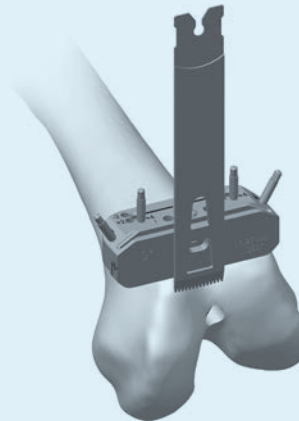
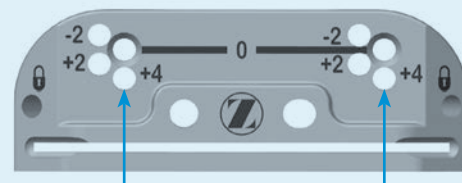

Fig. 15a
Fig. 15b
- If desired, the bone resection can be made from the top (most distal) surface of the Cut Guide (Fig. 15a). The top surface of the Cut Guide is 4mm from the cut slot. Therefore, if cutting from the top surface, the position of the Cut Guide must be adjusted by moving the Cut Guide from the Trocar Tipped Pins through the '0' holes and reinserting the Cut Guide onto the Trocar Tipped Pins through the holes marked '+4' (Fig. 15b). Insert a Trocar Tipped Pin through at least one of the locking, or oblique, pin holes in the Cut Guide to further secure the Cut Guide to the femur prior to cutting the femur.